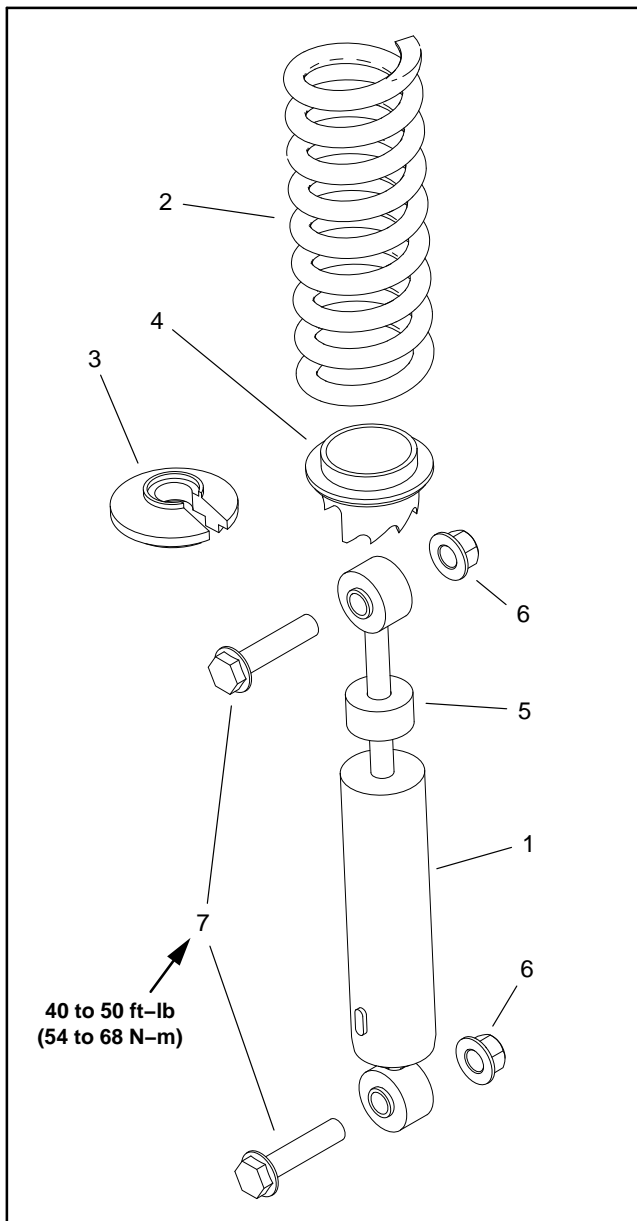

Figure 19
2. Use shock spring compressor (TOR6015: see Special Tools in this chapter) to safely compress the spring. While the spring is compressed, remove the spring collar and spring from the dampener cartridge (Fig. 19).